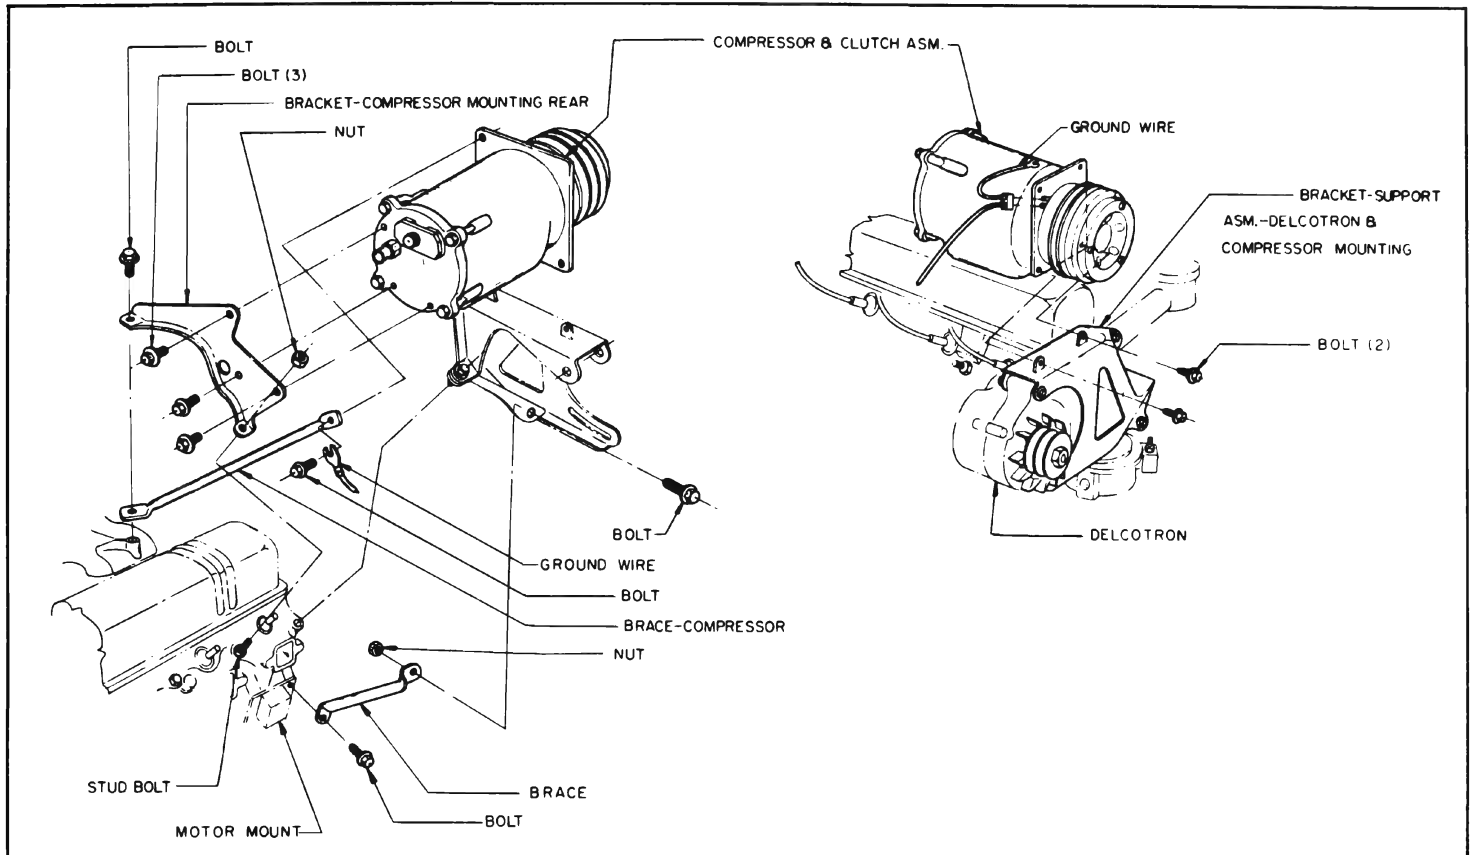

Figure 11-92—Compressor Installation - 4600, 4700 and 4800 Series
4. Disconnect magnetic clutch coil wire connector, then loosen the belts and remove compressor from its mounting on engine. See Figures 11-92 and 11-93.